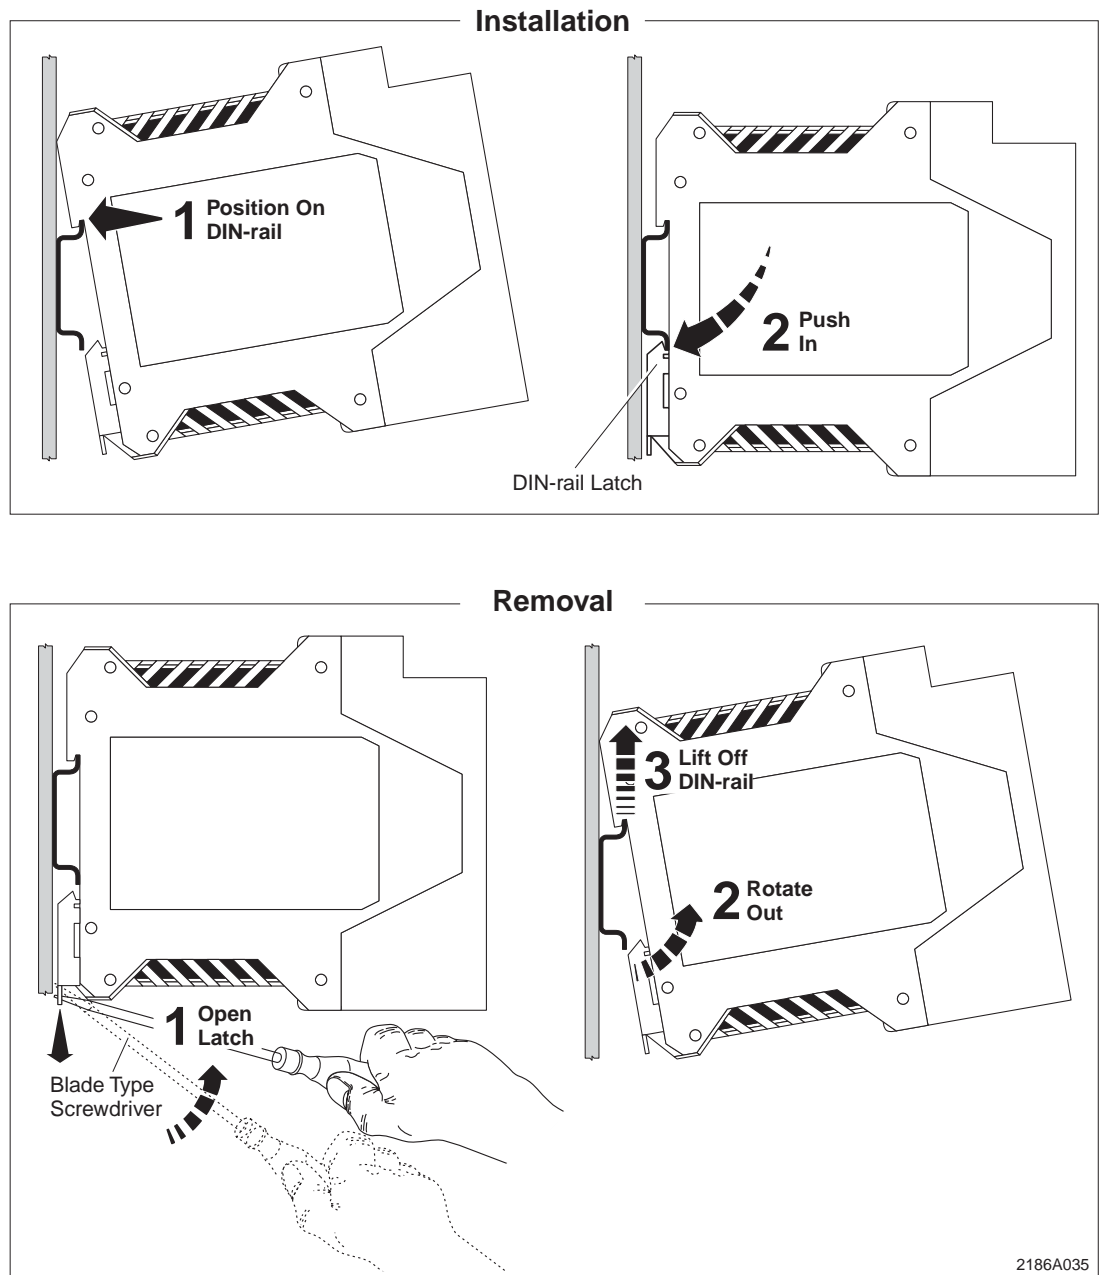

Figure 3-2. Installing and Removing RAD-80211-XD Modules from the DIN rail
1. Attach the RAD-80211-XD module to the mounting rail by positioning the keyway at the top of the module onto the mounting rail. See Figure 3-2. Then rotate the module inward until the DIN-rail latch locks the module in place on the DIN rail. Next, check that the module is fixed securely to the DIN rail by lightly pull outward on the module.